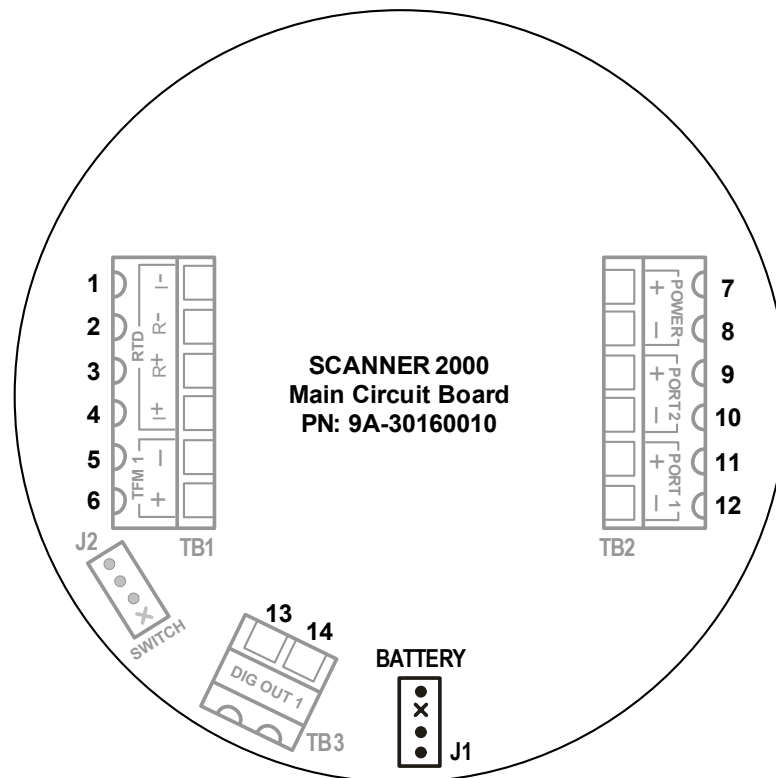

Figure 3.2—Lithium battery pack connection
4. Connect the lithium battery to the J1 connector on the circuit assembly. See Figure 3.2, page 63.
The Scanner 2000 microEFM is shipped with a lithium battery pack. To supply power to the instrument, connect the battery cable to connector J1 on the main circuit assembly (Figure 3.2).